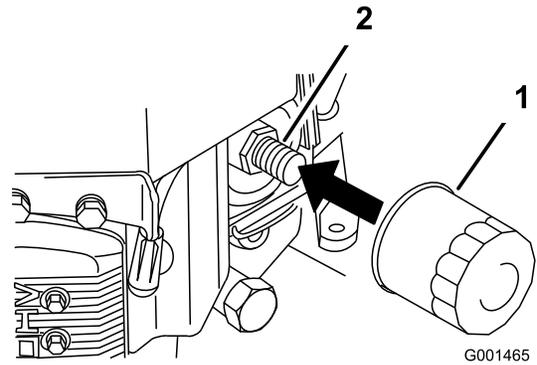

Figure 37
2. Remove the old filter (Figure 37).
3. Apply a thin coat of new oil to the rubber gasket on the replacement filter (Figure 37).
4. Install the replacement oil filter to the filter adapter, turn the oil filter clockwise until the rubber gasket contacts the filter adapter, then tighten the filter an additional 3/4 turn (Figure 37).